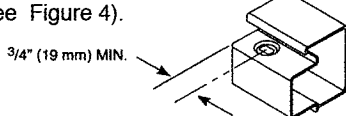

Figure 2
- A. Installation of device depends on trim: Note 3/4" (19 mm) minimum restriction (See Figure 2).